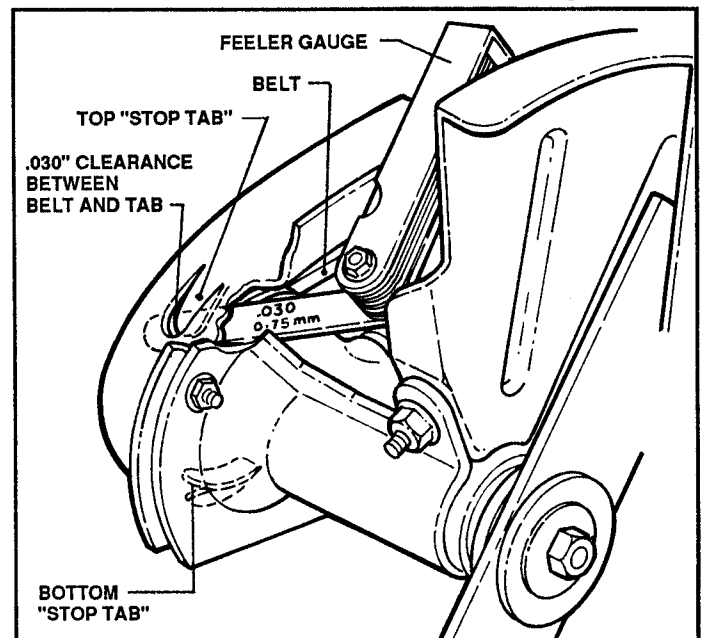

FIGURE 12
- (a) Engage blade and, using feeler gauge, check clearance between belt and "STOP TABS". Clearance should be .030". See Figure 12.